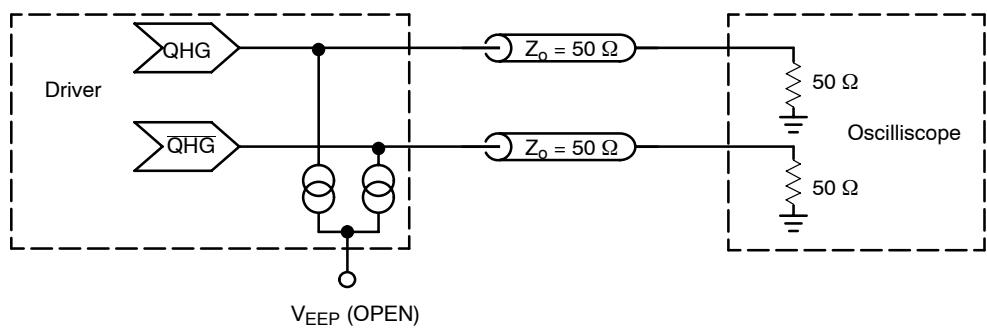
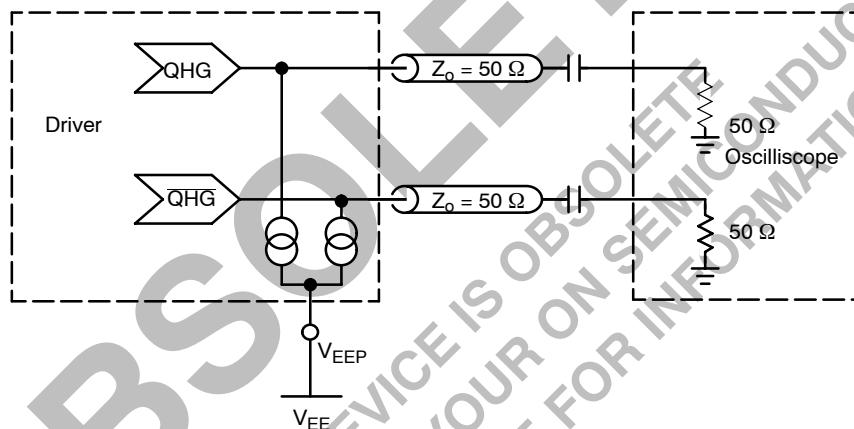

Figure 11. QHG/QHG Device Evaluation Set-up; $V_{EEP} = \text{OPEN}$
Figure 12. QHG/QHG Device Evaluation Set-up; $V_{EEP} = V_{EE}$
9. QHG/QHG outputs loaded with $50\ \Omega$ to $V_{CC} - 2.0\text{ V}$ ($V_{EEP} = \text{OPEN}$) Figure 11 or with optional current source ($V_{EEP} = V_{EE}$) Figure 12. Q/Q outputs loaded with 8 mA current source (CS_SEL = V_{EE}).
13. QHG/QHG outputs loaded with 50Ω to $V_{CC} - 2.0$ V ($V_{EEP} = \text{OPEN}$) Figure 11 or with optional current source ($V_{EEP} = V_{EE}$) Figure 12.
17. QHG/QHG outputs loaded with 50Ω to $V_{CC} - 2.0$ V ($V_{EEP} = \text{OPEN}$) Figure 11 or with optional current source ($V_{EEP} = V_{EE}$) Figure 12.